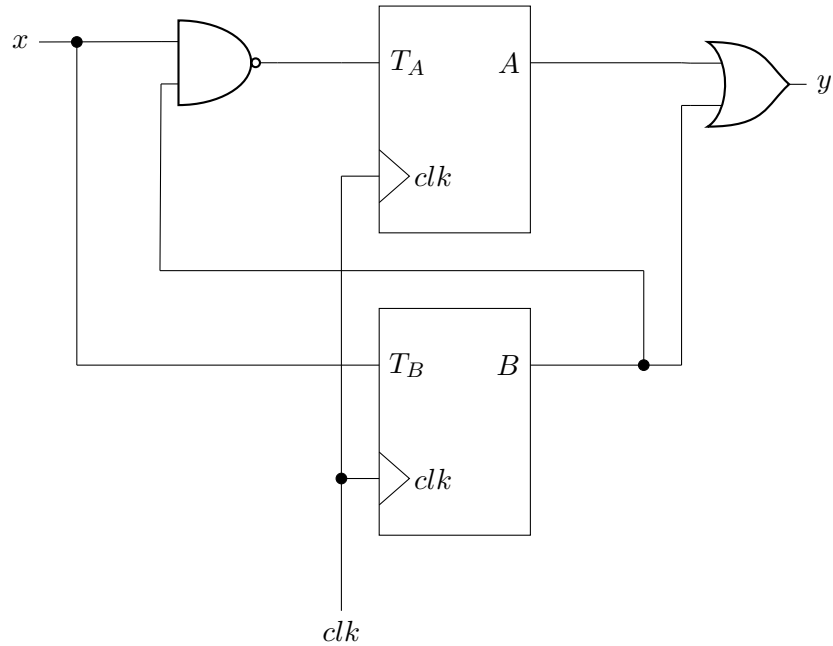

Figure 6.7:
7. Two T-flip flops are interconnected as shown in Fig. 6.7. The present state of the flip flops are:  $A = 1, B = 1$ . The input  $x$  is given as 1, 0, 1 in the next three clock cycles.